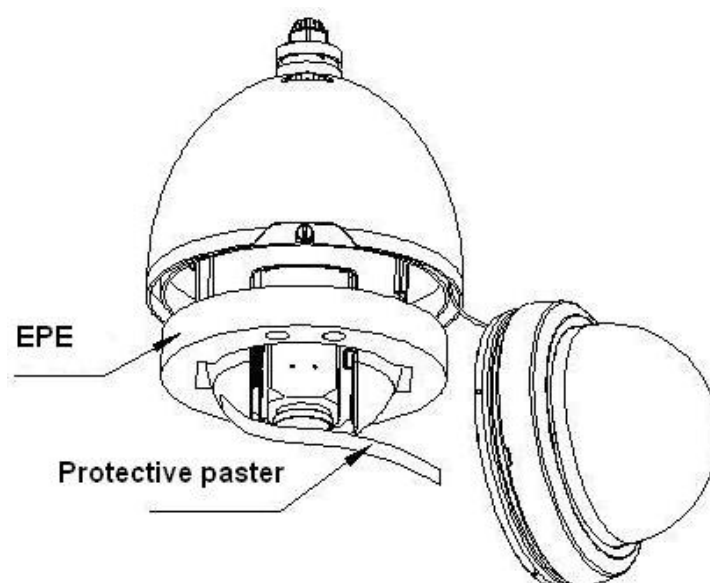

Figure 1-1
2).Remove the package and then take out the device. Open the transparent cover and take out the packing material EPE around the speed dome module. Please remove the protective paster from the module and take off the camera lens cap. See Figure 1-1.
Before you control the speed dome, please set the address, baud rate and parity first so that the speed dome can respond to the control command. See Figure 1-1.